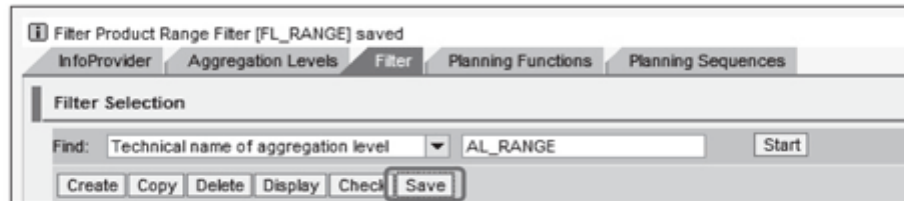

Figure 12.41 Save Planning Filter
- After you've maintained all of the necessary restrictions to the filter, save it using the SAVE button available under the Filter tab (see Figure 12.41).